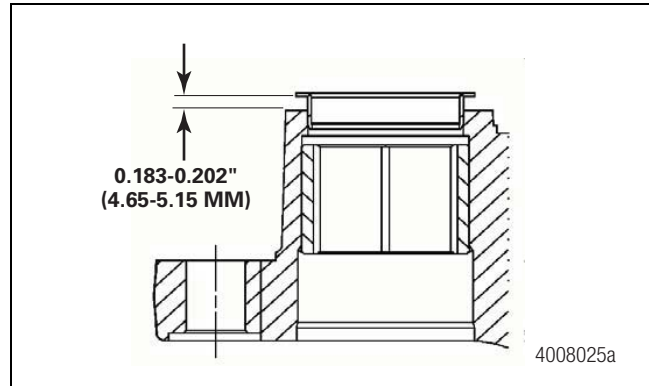

Figure 5.36
- Use the applicable parts of Meritor tool MST 1000 to draw the retainer into the slide pin bore until the flat face of the retainer is 0.183-0.202-inch (4.65-5.15 mm) from the end of the slide pin bore. Figure 5.36.